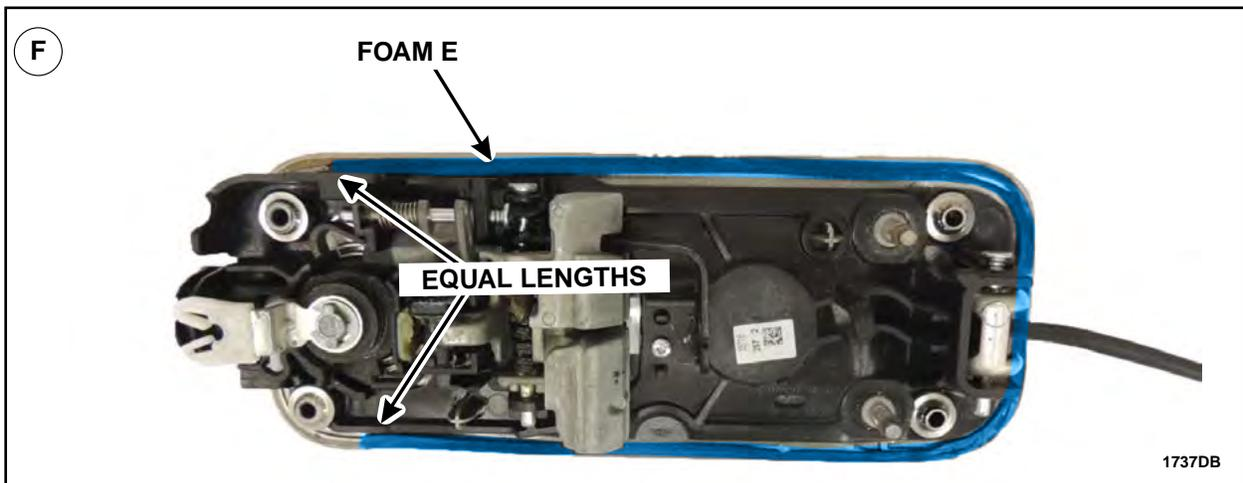

FIGURE 47
- F. Without stretching the foam adhere it to the exterior door handle ensuring that both sides of Foam E are of equal length once secured. See Figure 47.